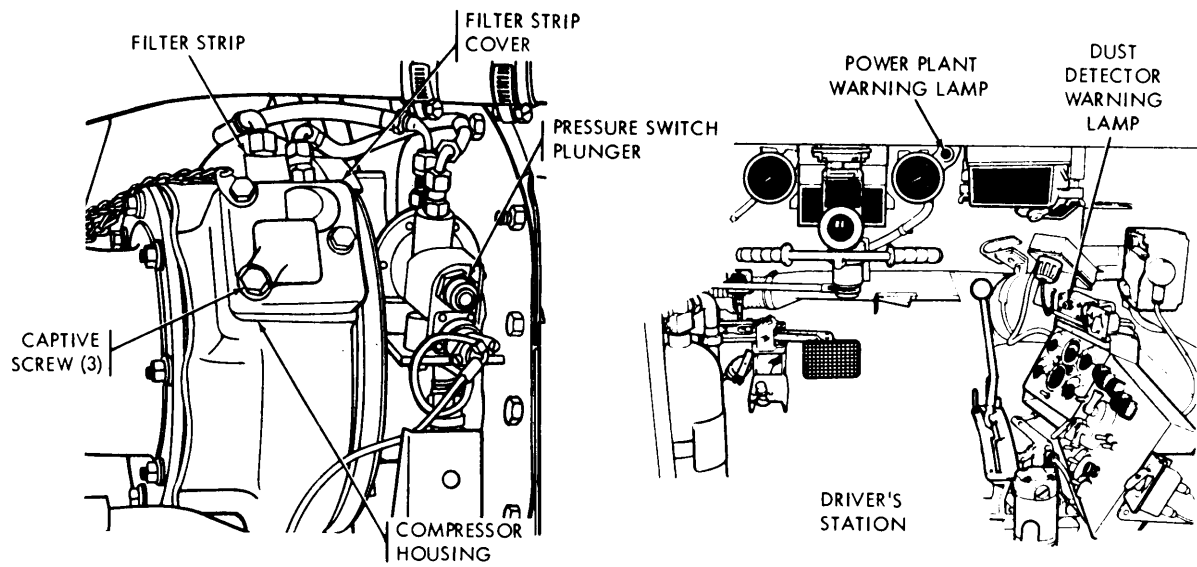

Figure 6-27. Dust detector operational test.
*j. Dust Detector Operational Test (Fig. 6-27).*